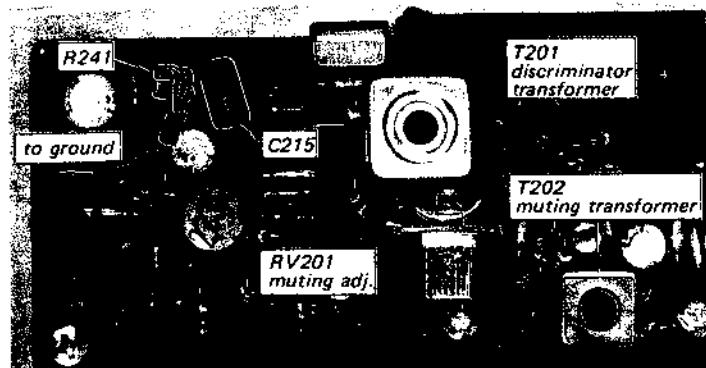

Fig. 3-2. Interruption of afc circuit and parts location
5. Short the connection point of R242 and C215 (AFC circuit) to ground as shown in Fig. 3-2.
3. Turn the core of transformer IFT101 or T201 (bottom core) (See Fig. 3-2 or Fig. 3-4) with the alignment tool to obtain maximum output.
3. Short the connection point of R242 and C215 (AFC circuit) to ground as shown in Fig. 3-2.
3. Turn the top core (secondary side) of discriminator transformer T201 (see Fig. 3-2) with a hex-head alignment tool to obtain a null-point reading on the tuning meter. If the discriminator transformer (T201) is not aligned correctly, some deviation on the tuning meter will be observed.
2. Turn the knob of RV201 (see Fig. 3-2) fully clockwise on the fm i-f and discriminator board.
4. Short the connection point of R242 and C215 (AFC circuit) to ground as shown in Fig. 3-2.
1. Short the connection point of R242 and C215 (AFC circuit) to ground as shown in Fig. 3-2.